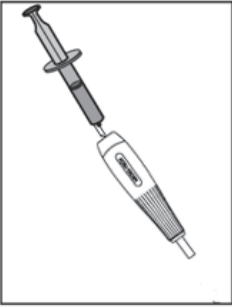
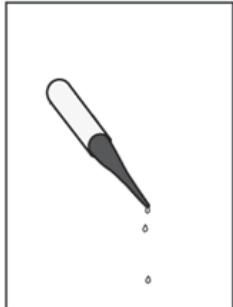

Fig. 3a
Fig. 3b
- It is advisable to flush luer port or back handle (guide wire port) of the stent delivery system with a 10cc syringe of saline to expel air. (Refer to Fig. 3a, 3c) Continue to flush until the saline flows out of the distal catheter tip. (Refer to Fig. 3b, 3d).